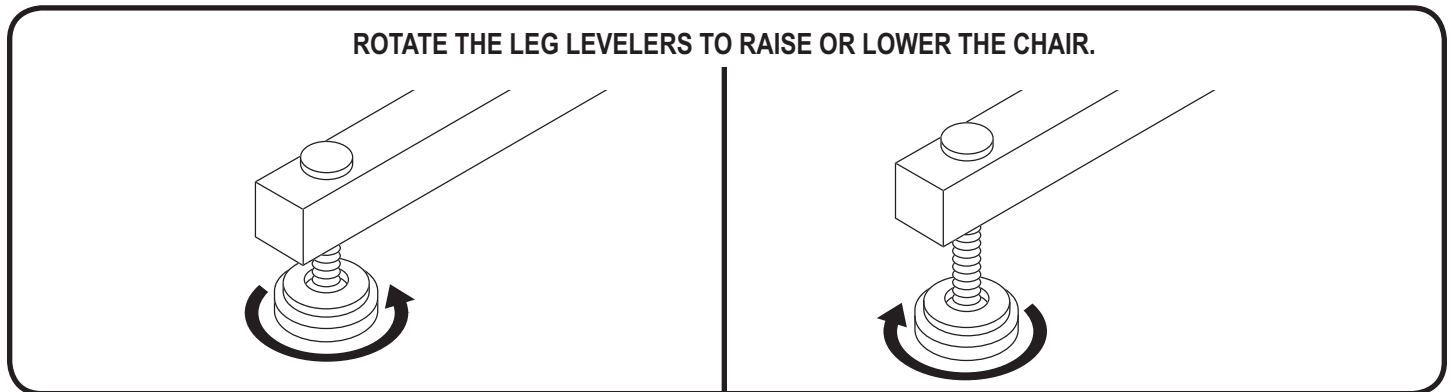

Figure 3.2 Leg Levelers
Leg Levelers: Manually rotate up or down in order to stabilise the chair before use (**Fig. 3.2**).
2. Adjust the leg levelers to stabilise the power lift recliner (**Fig. 3.2**).